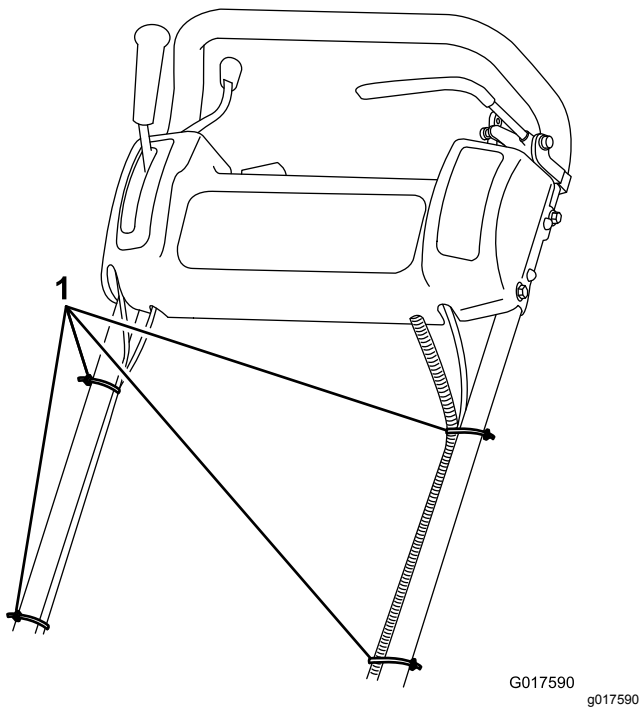

Figure 5
7. Secure the cables and wire harness to the handle with the cable ties (Figure 5).